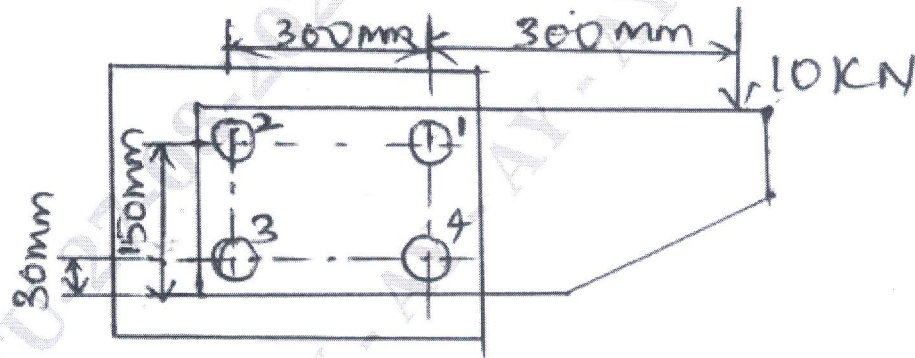

Fig. Q4 (b)
b. A bracket is bolted as shown in Fig. Q4 (b). All the bolts are identical. Calculate the size of the bolts if the load is 10 kN and allowable shear stress in material is 40 MPa. (14 Marks)